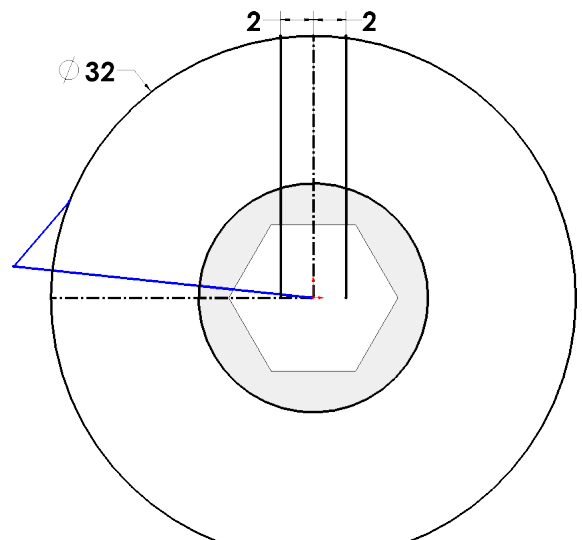

Fig. 15
Step 14. Sketch **line** from Origin  at an angle out to left beyond circle and a chained line back to circle, **Fig. 15**.